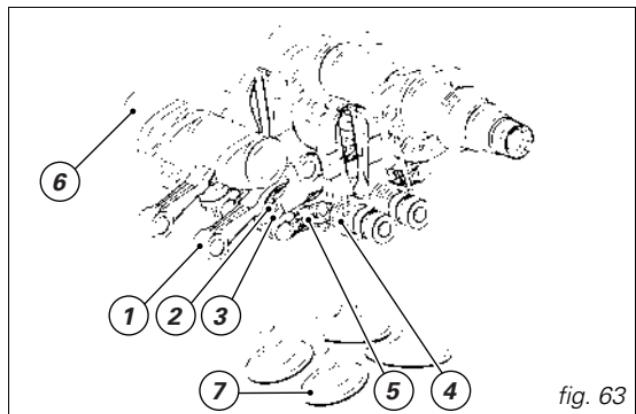

fig. 63
**Desmodromic timing system (fig. 63)**